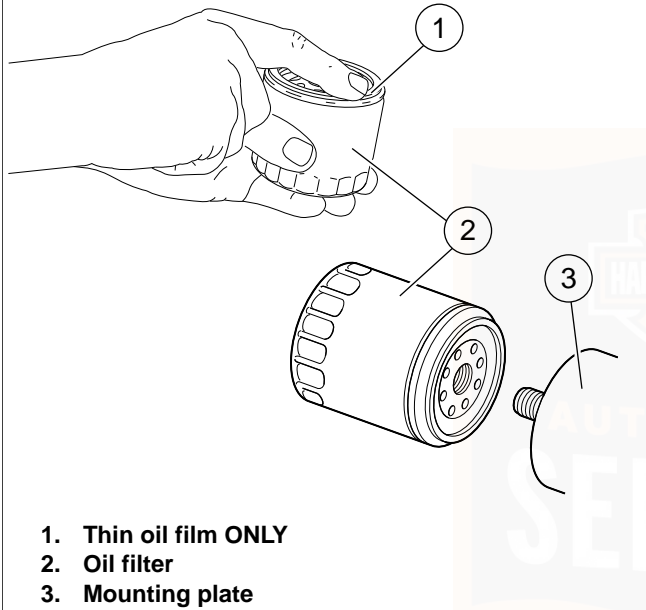

Figure 36. Applying Thin Oil Film
5. See Figure 36. Lube the gasket on new oil filter with engine oil and install new filter. Hand tighten oil filter 1/2-3/4 turn after gasket contacts filter mounting surface.